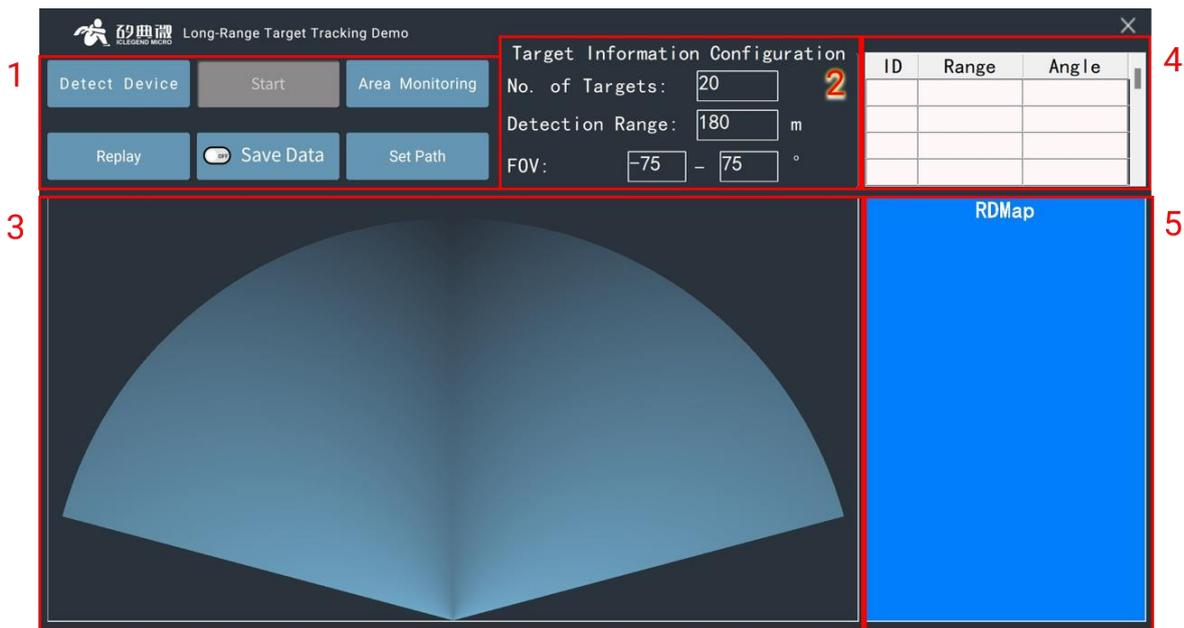

Figure 6-11 Outdoor Long-Range Target Tracking Demo GUI
Step 2: Open the EVB1122 Wave Config and Demo GUI, click the **Demo** menu, choose the **Outdoor Long-Range Target Tracking** submenu, the Long-Range Target Tracking window will appear, as shown in Figure 6-11;